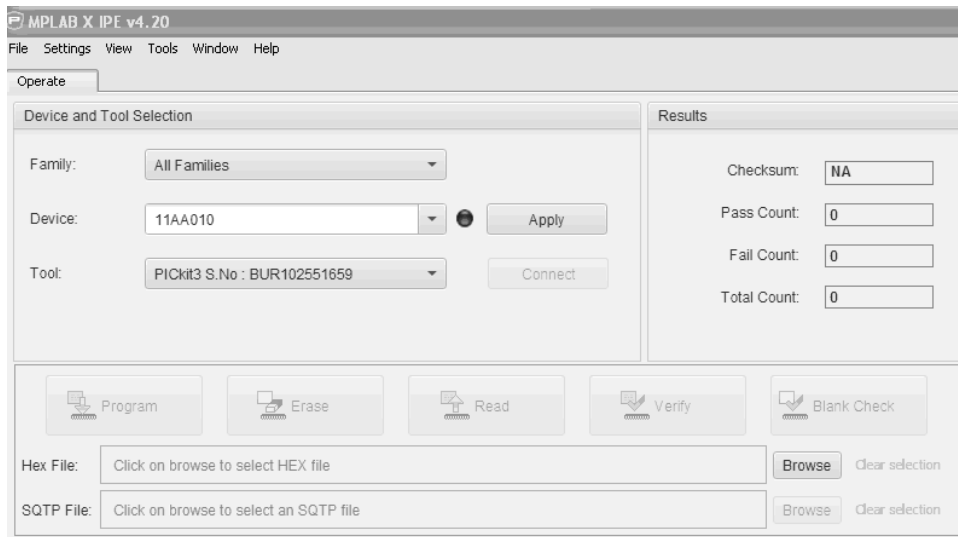

FIGURE 3. IPE APPLICATION, MAIN WINDOW
- Start the IPE application. The IPE main screen is shown in Figure 3. Verify that the Tool drop-down, under Device and Tool Detection at the left reads: